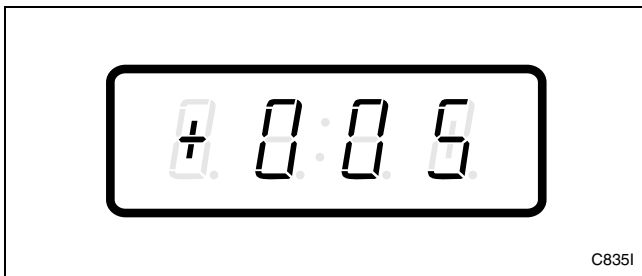

Figure 24
3. Press the DELICATES (+) or the COLD (-) keypad to scroll through the programmable options until “+005” appears in the VFD. Refer to *Figure 24*.